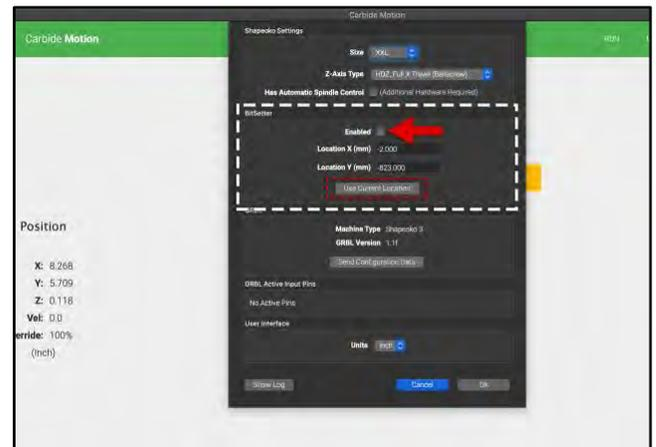

Figure 26
2. Recalibrate your BitSetter. See *Fig. 26*.